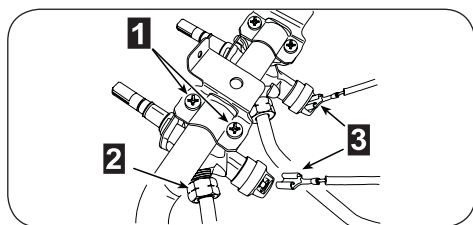

Fig. 13
- Unscrew the nuts **2** of the gas aluminium pipes and pull out the thermocouple quick connectors **3** (fig.13).
- Make to slip the ramp toward the back part and unscrew the screws **1** (fig. 13) in order to free the taps.